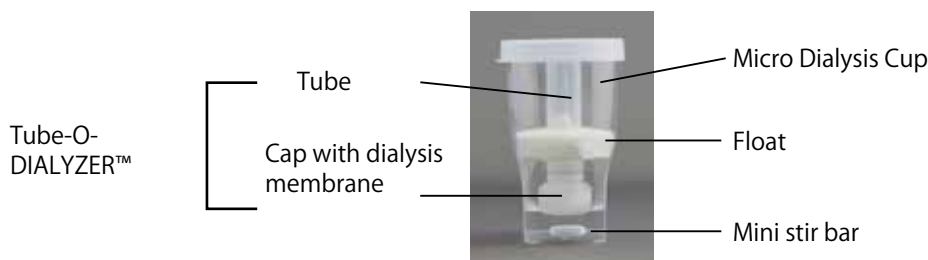

Figure 3. Tube-O-DIALYZER and Micro Dialysis Cup assembled for *in vitro* translation
- Set the inverted dialysis tube in the Float and place them into the Micro Dialysis Cup prepared in Step 2 such that the dialysis membrane is in contact with Supplement Buffer in the bottom of the Cup. Make sure no air bubbles are present between the dialysis membrane and Supplement Buffer. (See Figure 3)